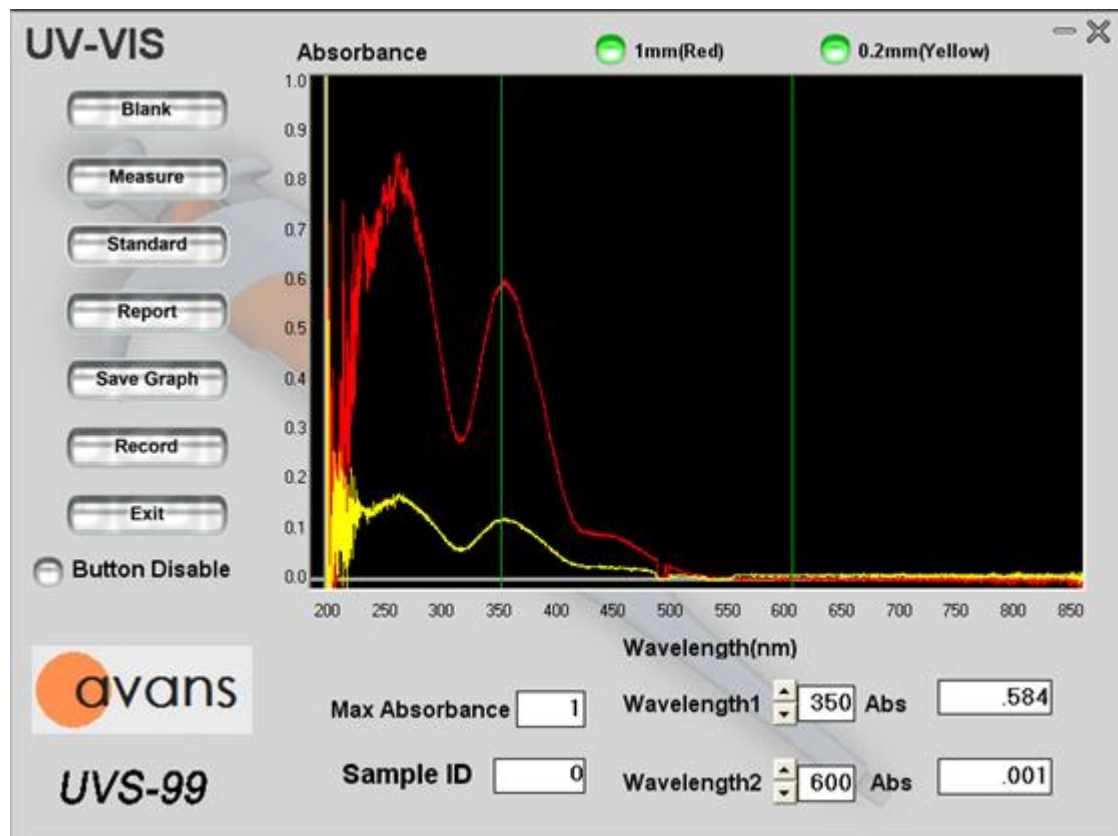

Figure 4.6
- Report: Click “Report” and a dialog box will pop up (Figure 4.6). Press “Yes”, and the full spectrum between λ_1 and λ_2 will be exported to an Excel file with 1 nm increment. When “No” button is pressed, only the absorbencies of λ_1 and λ_2 will be exported to an Excel file.